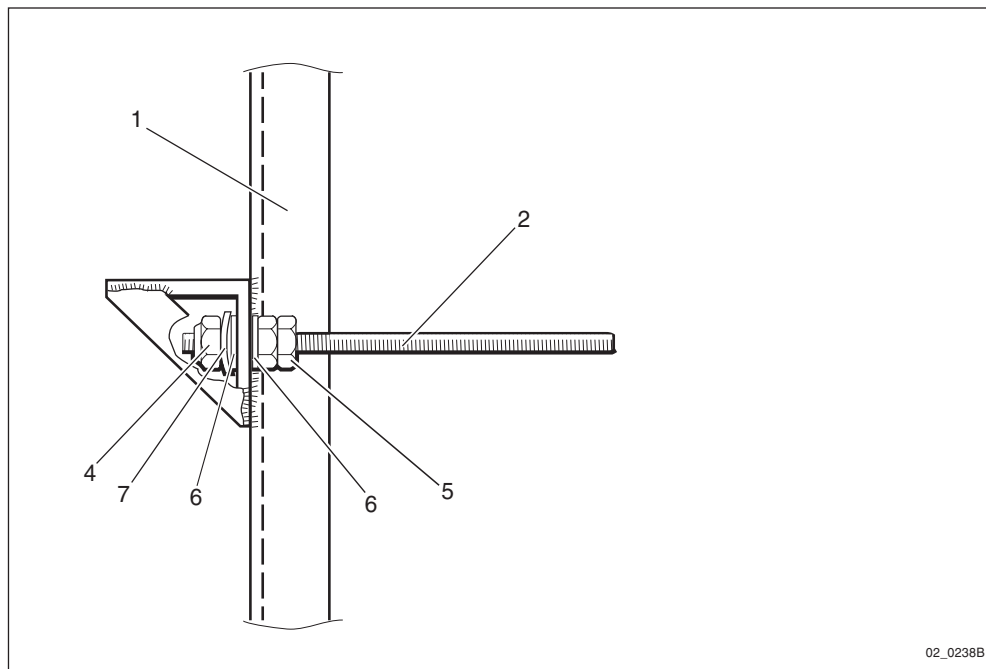

Figure 2
See figures 2, 3 and 4
1. Pre-assemble lower attachment, (pos 1) in figure 2, before it is used as a hinge on the platform.
3. Mount pin bolt (pos 2) (2 pcs, $l = 210$ mm), to lower attachment.
4. Tighten the pin bolts and lock them with lock nuts (pos 5) (4 pcs).